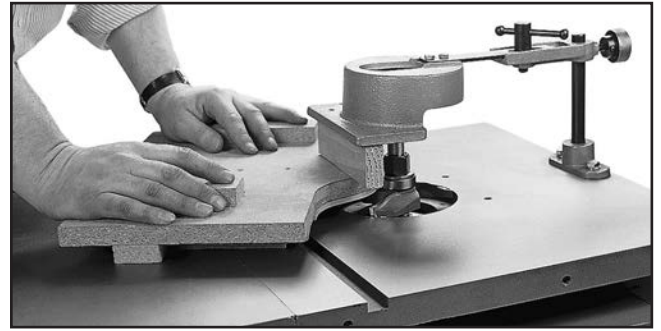

Figure 51. Use guard when doing freehand work. (Portion of guard removed for clarity.)
7. Use some type of hold-down fixture and guard when doing freehand work (see **Figure 51**).
Sometimes the starting pin will not be in the most advantageous position. If so, firmly clamp a board in the desired position to act as a starting pin (see **Figure 52**). Some type of pivot point **must** be used. Notice in **Figures 51 & 52** the operator is not exposed to the cutting edge of the cutter. Cutters are removing material from the bottom of the workpiece.